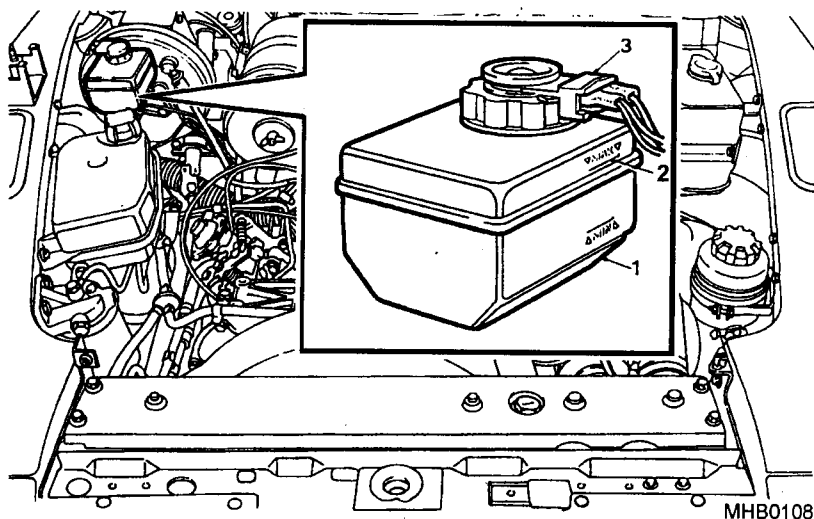

Fig 21 Brake fluid reservoir
- 26.1 Topping up with fluid. Hold the centre terminal block (Fig 21 (3)) stationary and undo the reservoir cap.